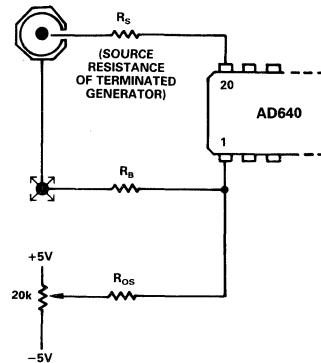

Figure 25. Optional Input Offset Voltage Nulling Circuit; See Text for Component Values
In most applications there will be no need to use any offset adjustment. However, a general offset trimming circuit is shown in Figure 25.  $R_S$  is the source resistance of the signal. *Note: 50 $\Omega$  rf sources may include a blocking capacitor and have no dc path to ground, or may be transformer coupled and have a near zero resistance to ground.* Determine whether the source resistance is zero, 25 $\Omega$  or 50 $\Omega$  (with the generator terminated in 50 $\Omega$ ) to find the correct value of bias compensating resistor,  $R_B$ , which should optimally be equal to  $R_S$ , unless  $R_S = 0$ , in which case use  $R_B = 5\Omega$ . The value of  $R_{OS}$  should be set to  $20,000R_B$  to provide a  $\pm 250\mu$ V trim range. To null the offset, set the source voltage to zero and use a DVM to observe the logarithmic output voltage. Recall that the LOG OUT current of the AD640 exhibits an *absolute value response* to the input voltage, so the offset potentiometer is adjusted to the point where the logarithmic output "turns around" (reaches a local maximum or minimum).
R4 is identical to R2, and in shunt with R3 (270 $\Omega$  thin film) forms a 27 $\Omega$  resistor with the same TC as the output resistance of the attenuator. By connecting Pin 1 to ATN LOW (Pin 2) this resistance minimizes the offset caused by bias currents. The offset nulling scheme shown in Figure 25 may still be used, with the external resistor  $R_B$  omitted and  $R_{OS} = 500k\Omega$ . Offset stability is improved because the compensating voltage introduced at Pin 20 is now PTAT. Drifts of under 1 $\mu V/^\circ C$  (referred to Pins 1 and 20) can be maintained using the attenuator.
Cascaded AD640s can be used in dc applications, but input offset voltage will limit the dynamic range. The dc intercept is 6μV. *The offset should not be confused with the intercept*, which is found by extrapolating the transfer function from its central "log linear" region. This can be understood by referring to Equation (1) and noting that an input offset is simply additive to the value of  $V_{IN}$  in the numerator of the logarithmic argument; it does not affect the denominator (or intercept)  $V_X$ . In dc coupled applications of wide dynamic range, special precautions must be taken to null the input offset and minimize drift due to input bias offset. It is recommended that the input attenuator be used, providing a practical input range of -74dBV ( $\pm 200\mu V$  dc) to +6dBV ( $\pm 2V$  dc) when nulled using the adjustment circuit shown in Figure 25.